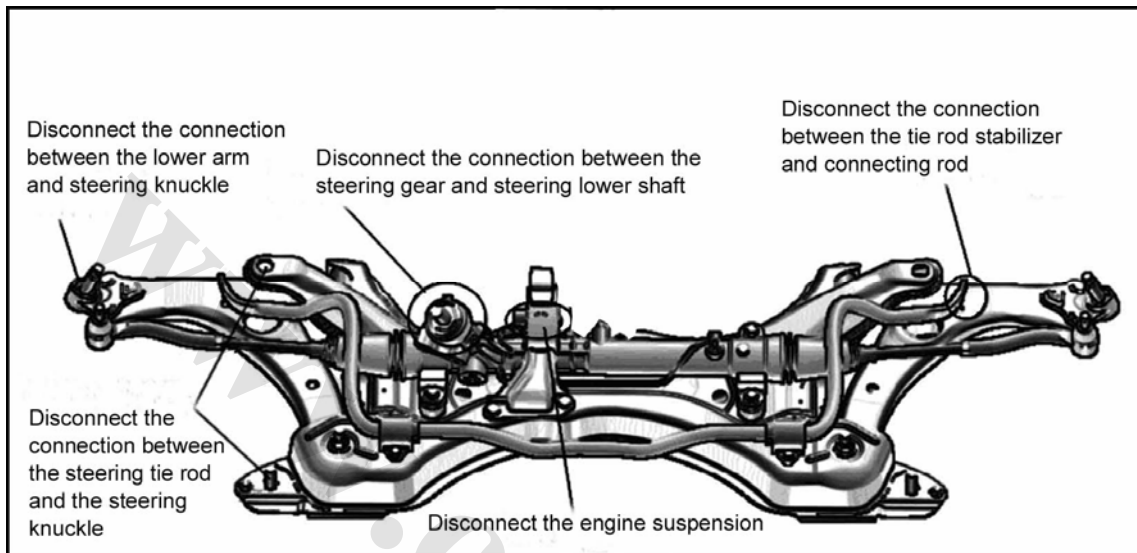

Fig. 2-12
(1) Disassembly of front stabilizer bar. Disconnect the related connections. Lower the whole front sub-frame according to Fig. 2-12.